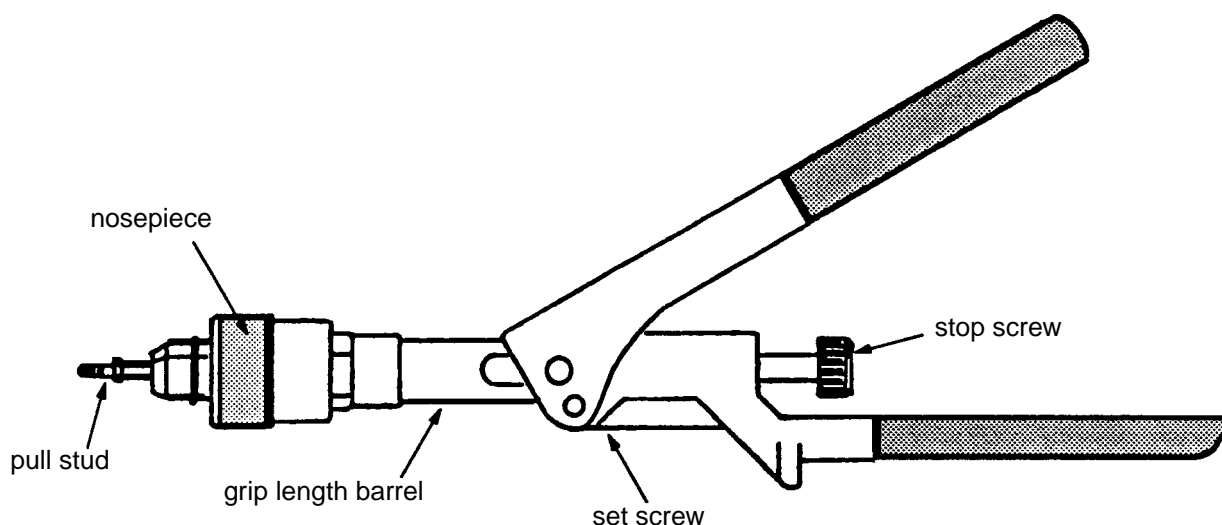

Figure 7 - General Description of Hand Tool
- Step 1. Select the correct nose piece and puller from Table 9 for the nut plate size and installation configuration and assemble the puller unit and nose piece to the tool handle. Refer to Figure 7 for a general description of the hand tool.